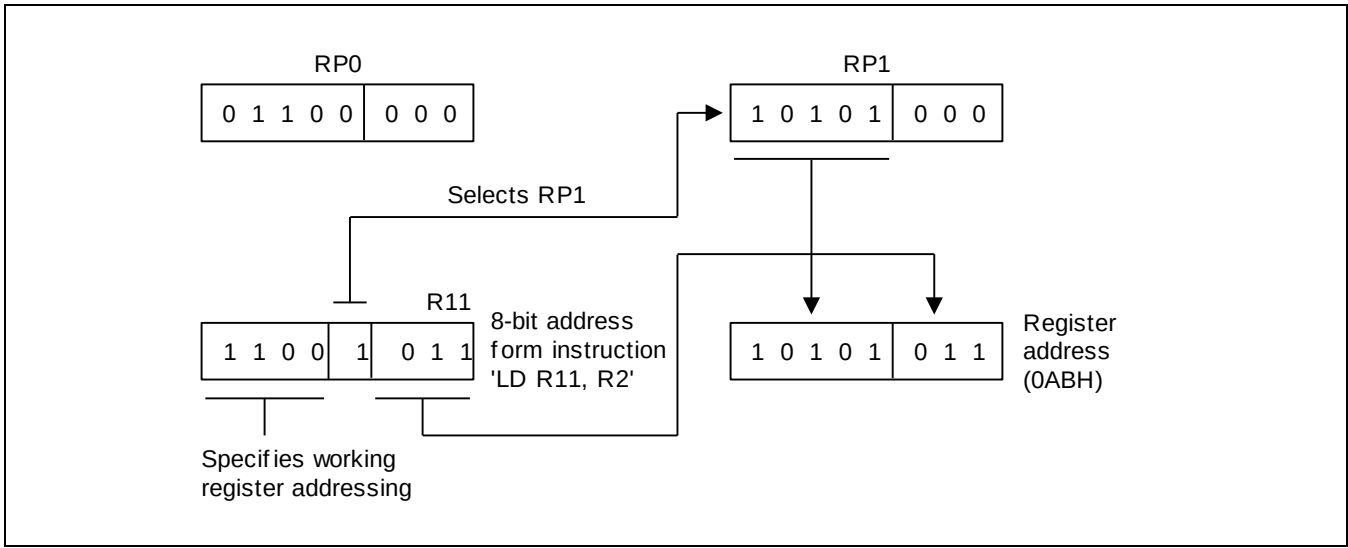

Figure 2-17 8-Bit Working Register Addressing Example
Figure 2-17 shows an example of 8-bit working register addressing. The four high-order bits of the instruction address (1100B) specify 8-bit working register addressing. Bit 3 ("1") selects RP1 and the five high-order bits in RP1 (10101B) become the five high-order bits of the register address. The three low-order bits of the register address (011) are provided by the three low-order bits of the 8-bit instruction address. The five-address bits from RP1 and the three address bits from the instruction are concatenated to form the complete register address, 0ABH (10101011B).